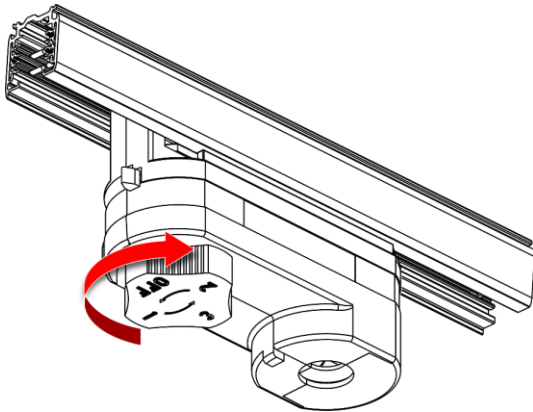

Fig. 09
- 05) Select the circuit with the **circuit selector (03)**. You can select 1-, 2- and 3-phase circuit, as shown in Fig. 09.